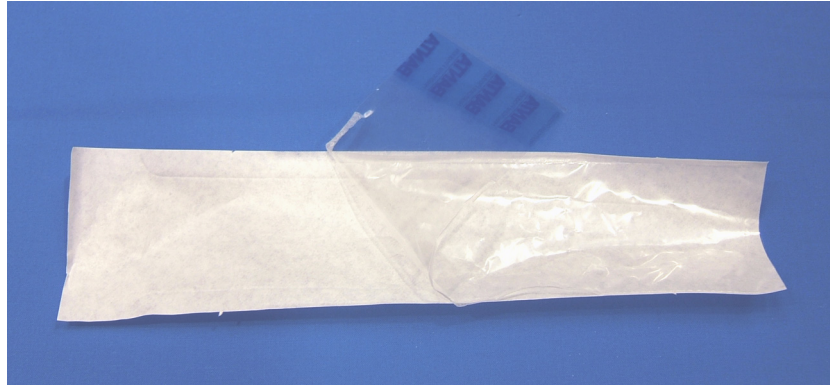

Figure 8
5. Remove the opaque layer (bottom layer) and the layer with blue tab (top layer) (Figure 8).